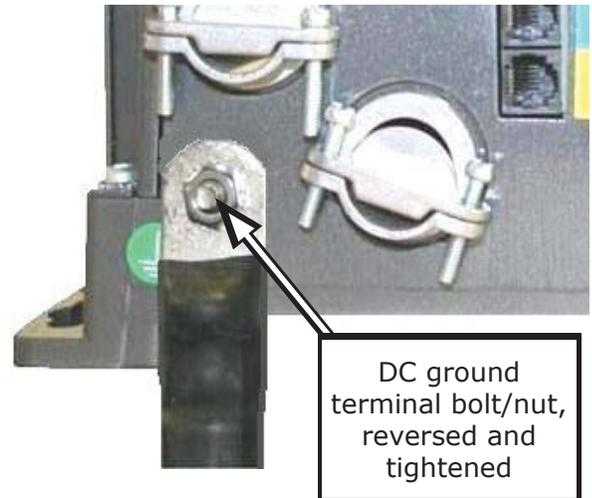

Figure 2-19, Connecting a Large DC Ground Wire
DC Side – Since the currents on the DC side are higher than the AC side (10 times at 12 volts), the equipment grounding needs are different. The DC equipment grounding conductor is sized per Table 2-5, and connected to the DC equipment grounding terminal on the inverter as shown in Figure 2-19.
4. Reverse the removed bolt, and place it back in the chassis hole. Attach a correctly sized ground cable with a ring terminal to the ME's chassis—as shown in Figure 2-19.